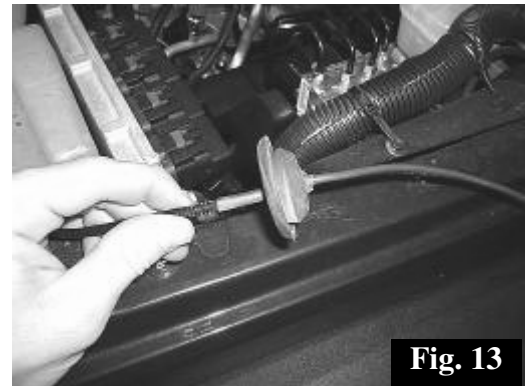

Fig. 13
21. Using a razor knife make a small cut in the center of the grommet. Pass the end of the wire with the small terminal on the end through the grommet and pull the grommet up to the point where the plastic sheathing starts. Fig. 13